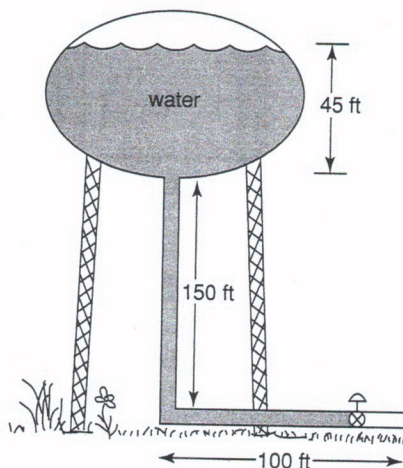

Figure 4.75
30. Figure 4.75 shows a water tower and some piping. For the dimensions shown and assuming that all pipes are Schedule 40 nominal 1.5-inch pipe, calculate the flow rate Q .